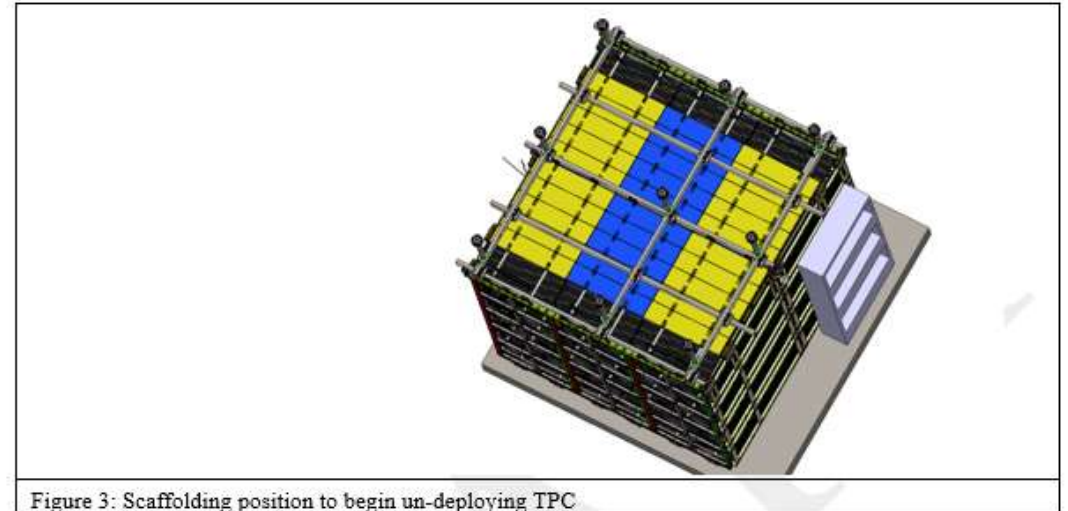

Figure 3: Scaffolding position to begin un-deploying TPC
- o Position Second scaffolding as shown in the figure 3.